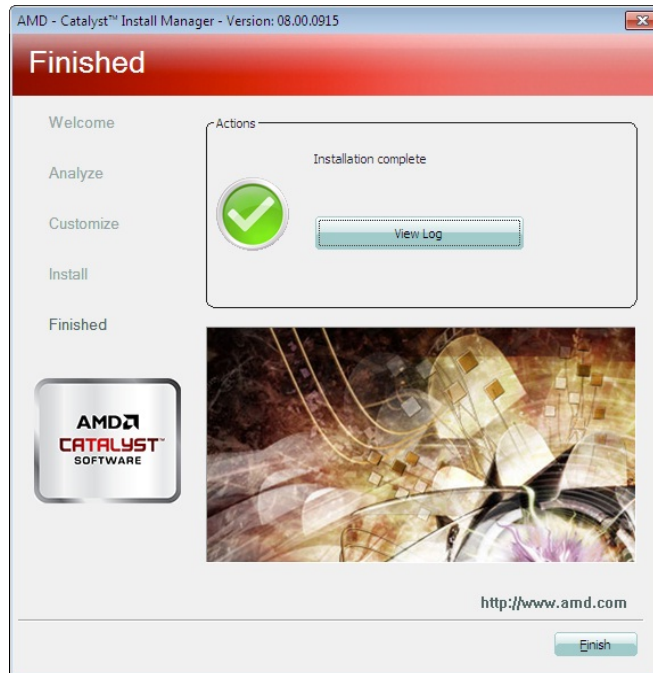

Figure 6-6: Graphics Driver Installation Finished Screen
Step 11: The **Finished** screen in **Figure 6-6** appears. Click **Finish** to exit.